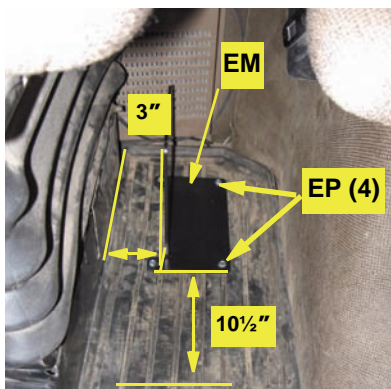

Figure 1b: ECU bracket installation
- b. Facing the one inch tabs of bracket **EM** toward the driver's seat, align the bracket parallel to the tractor seat frame. The bracket should be 3" from side of the seat frame and 10½" from the front edge of the seat frame (Figure 1b).